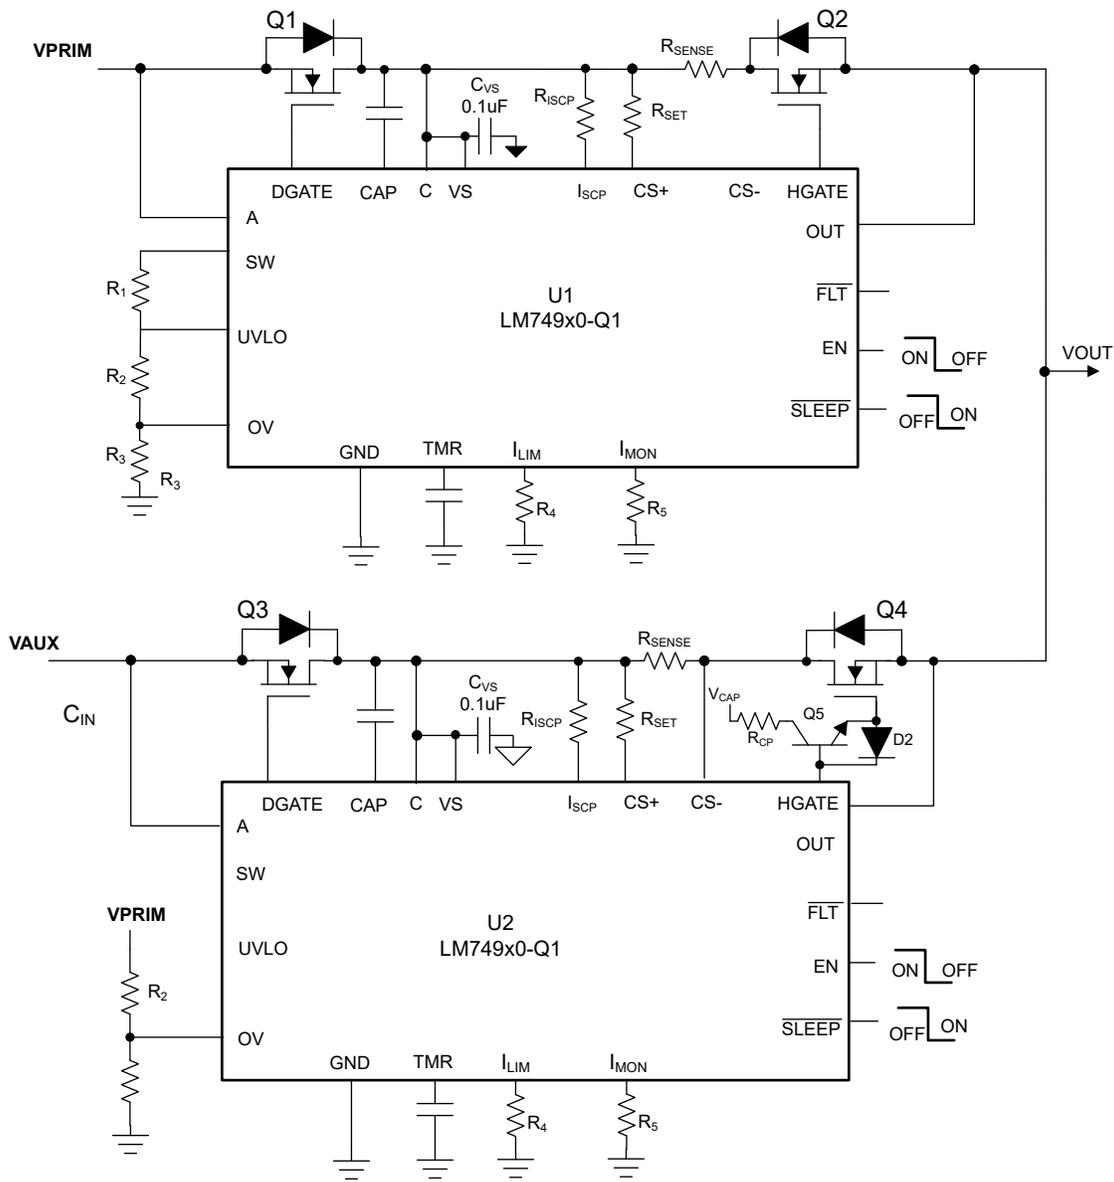

Figure 5. Typical priority power multiplexer application circuit using the LM74900-Q1.
**Figure 5** is a schematic for a priority power multiplexer using two **LM74900-Q1** devices in a common drain topology. The overvoltage pin of the **LM74900-Q1** in the  $V_{AUX}$  path is configured such that the  $V_{AUX}$  power supply connects to the load immediately when  $V_{PRIM}$  is disconnected for any reason and ensures continuous supply to the load.